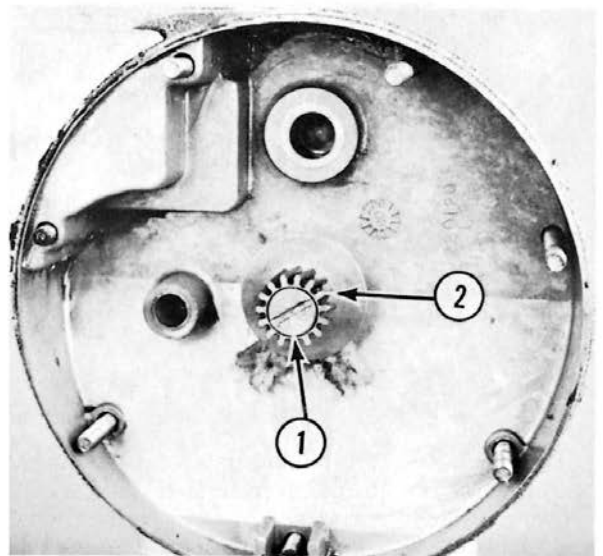

Fig. 4-1
- B. Remove the pinion retaining screw (1, Fig. 4-1).
- C. Remove the pinion (2, Fig. 4-1).